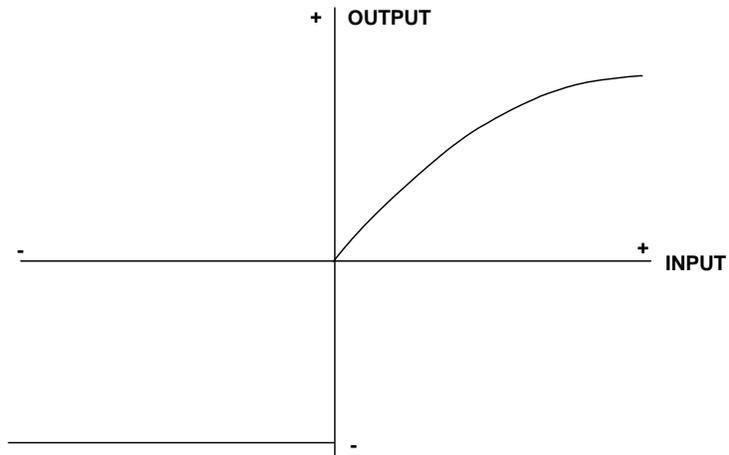
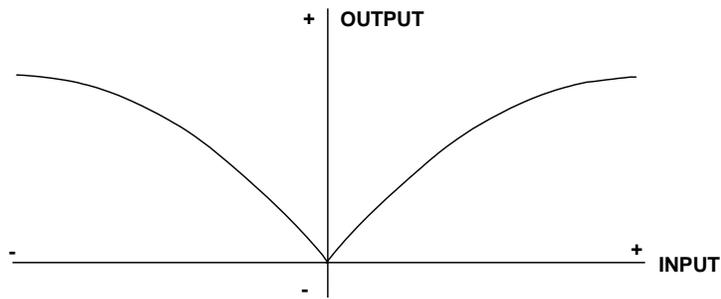
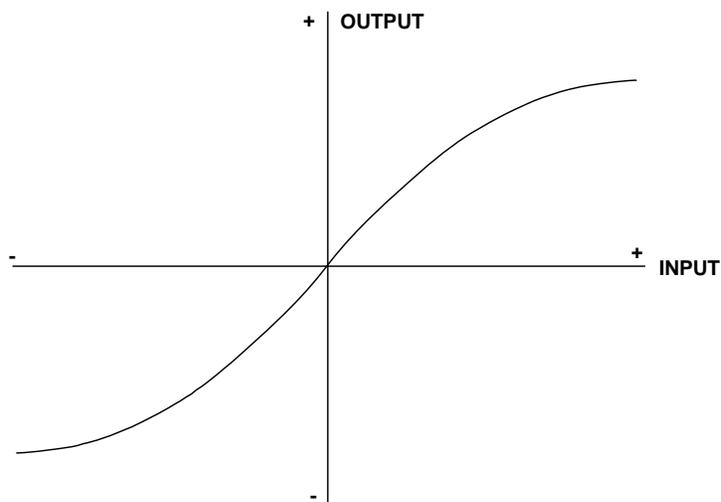

Figure 3: Basic Log Amp (Saturates with Negative Input)
Figure 4: Detecting Log Amp (Output Polarity Independent of Input Polarity)
Figure 5: Log Video or "True Log Amp" (Symmetrical Response to Positive or Negative Signals)
The logarithm function is indeterminate for negative values of x . Log amps can respond to negative inputs in three different ways: (1) They can give a fullscale negative output as shown in Figure 3. (2) They can give an output which is proportional to the log of the absolute value of the input and disregards its sign as shown in Figure 4. This type of log amp can be considered to be a full-wave detector with a logarithmic characteristic, and is often referred to as a *detecting* log amp. (3) They can give an output which is proportional to the log of the absolute value of the input and has the same sign as the input as shown in Figure 5. This type of log amp can be considered to be a video amp with a logarithmic characteristic, and may be known as a *logarithmic video (log video) amplifier* or, sometimes, a *true log amp*.